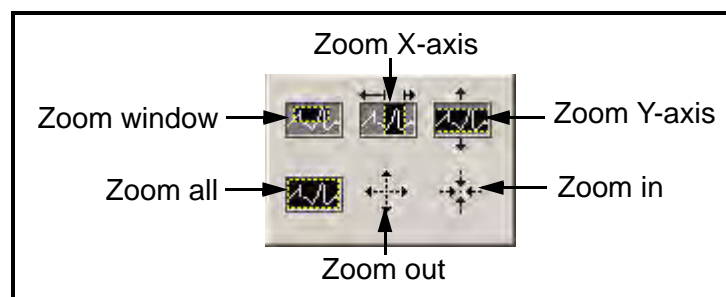

Figure 66: Zoom Tool
- Zoom Tool - gives you six options as shown in Figure 66.